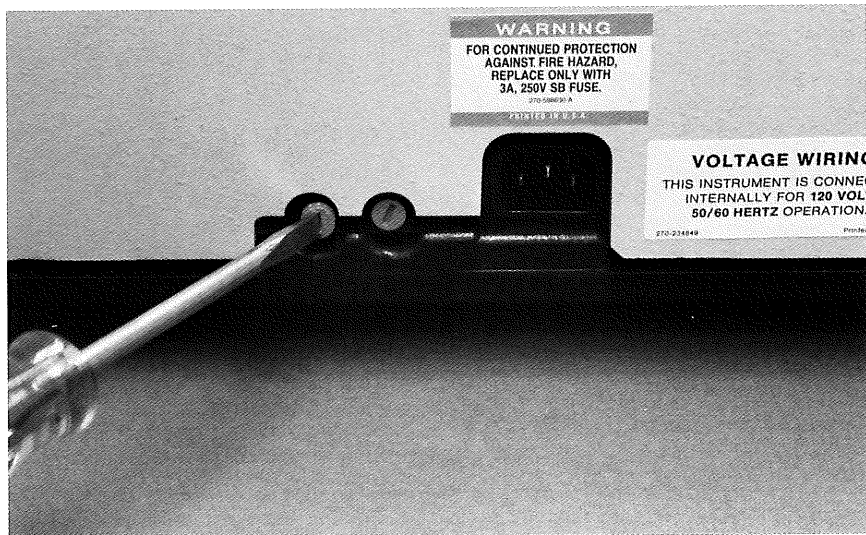

Figure 8-17.
2. To remove the fuse holder, insert the flat head screwdriver into the slot on the top of the fuse holder and turn counter-clockwise until it releases. See Figure 8-17.